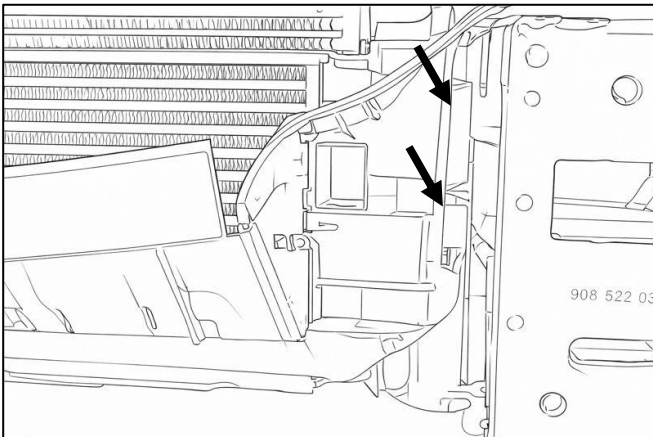

Figure 10: Airflow Skirt Clip Location
12. ☐ Remove the airflow skirt by carefully unclipping it from each side of the radiator and the (3) clips located on the bottom. See Figure 10.